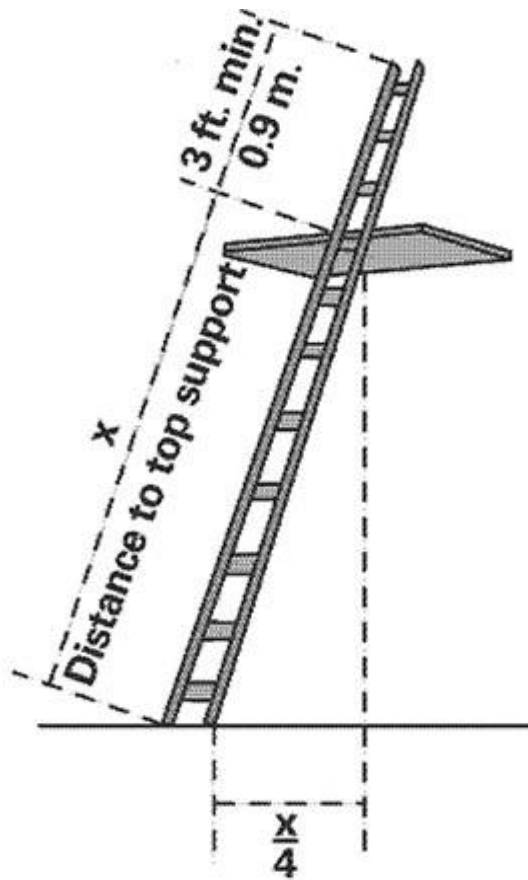

Figure D-1 -- Portable Ladder Set-up
- Portable ladders used to gain access to an upper landing surface have side rails that extend at least 3 feet (0.9 m) above the upper landing surface (see Figure D-1).